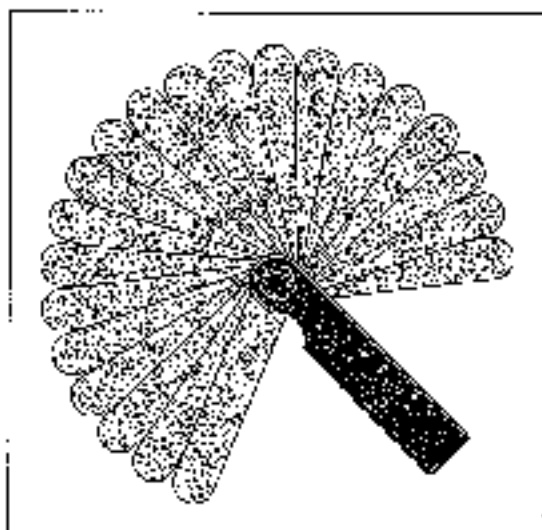

Figure 2-16:
- ✓ **Flat feeler gauges:** You use these gauges to adjust valves and ignition contact points, relatively simple jobs that are impossible to do properly without a feeler gauge (see Figure 2-16). Look for these gauges as part of a set of tools — or as trophies in auto parts stores — before you buy them separately.